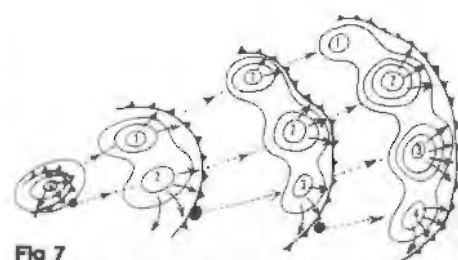

Fig 7
Fig 7 shows a plan view of how a single cell can grow into a multicell storm extending over a wide arc. At the left is the original cell; the curved line with spikes represents the outflow which acts rather like a miniature cold front. The general wind direction is from WSW to ENE. The original cell, marked (1), follows this track. New cells are triggered, often on the SE corner of the outflow. These are marked by black blobs which grow into cells 2, 3 and 4. Thus the storm centre can move across the wind as old cells die out on one side and new cells grow on the other. It is more common for these new cells to form in the right flank of the storm.